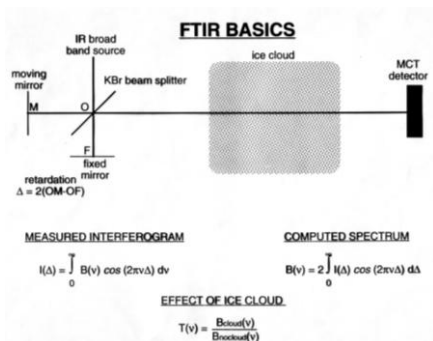

Figure 1.
- The difference in path length for the radiation is known as the retardation d ($OM = OF + d$) in figure 1 and 2.